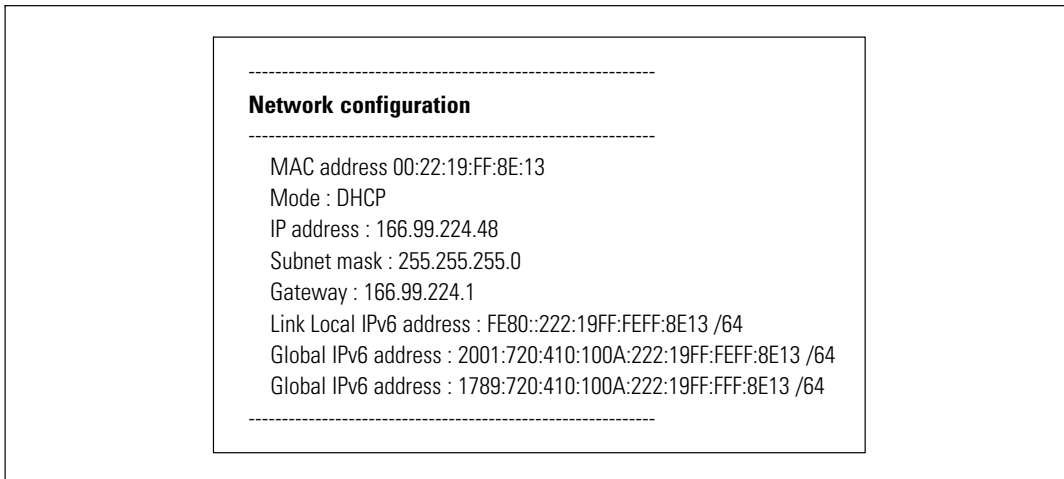

Figure 41. Read Network Settings Option
- **Read Network settings:** To view the network settings (see Figure 41).